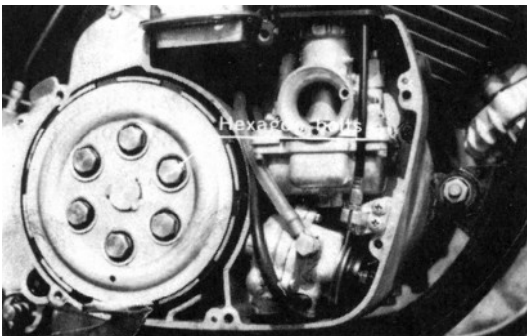

Fig. 54 Unscrewing clutch hexagonal bolts
2. Remove clutch springs and clutch facings and related parts by removing diagonally and evenly the hexagonal bolts of the clutch set plate. (Fig. 54)